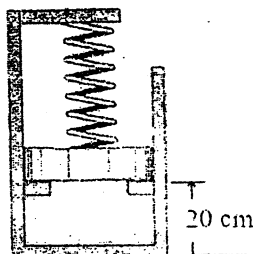

Figure P.8
8. Air ($m = 0.1$ kg) is contained in piston/cylinder assembly as shown in *Figure P.8*. Initially, the piston rests on the stops and is in contact with the spring, which is in its unstretched position. The spring constant is 100 kN/m. The piston weighs 30 kN and atmospheric pressure is 101 kPa. The air is initially at 300 K and 200 kPa. Heat transfer occurs until the air temperature reaches the surrounding temperature, 700 K. Find the final pressure and volume. [Take $R = 287$ J/kg K] [6]